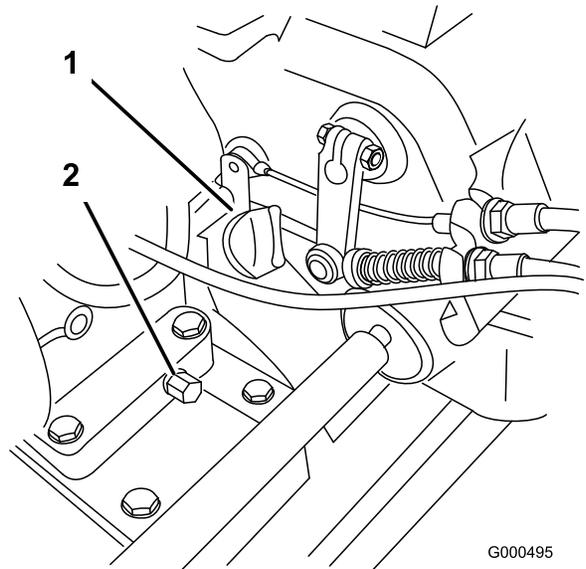

Figure 29
2. Position the machine so that the engine is level, and clean the area around the oil-level gauge (Figure 29).
3. Remove the oil-level dipstick by rotating it counterclockwise (Figure 29).
- At the rear of the machine, place a drain pan under the drain plug (Figure 29). Loosen the drain plug.